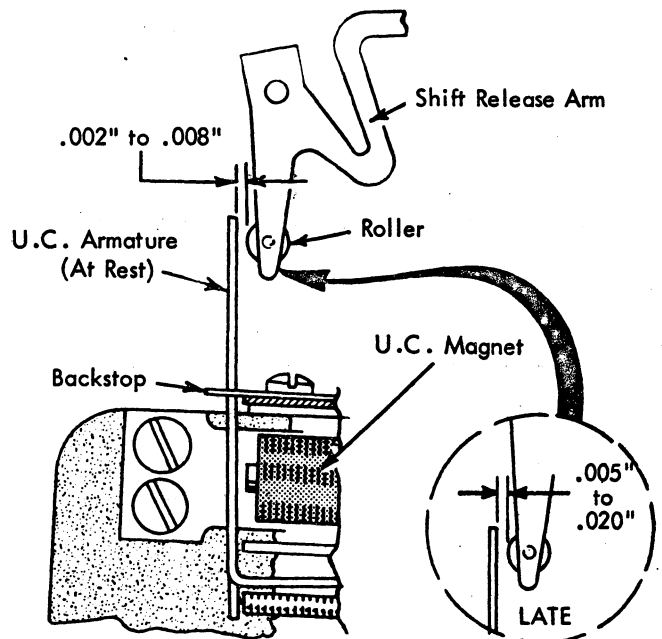

FIGURE 81. U.C. Armature Backstop
- 7. UC Armature Backstop, 15 Inch Machine (Early) Fig. 81 - Position (armature at rest) so that the UC armature clears the release arm roller by .002" to .008".
- 7.1 UC Armature Backstop (Late) (Fig. 81) - Position armature backstop (armature at rest) so that the UC armature clears the release arm roller by .005" to .020".